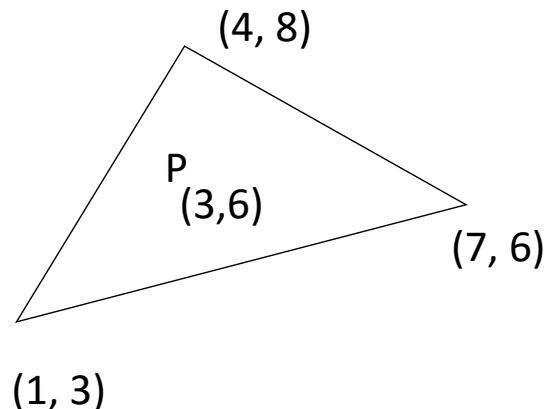

Fig. 6b
- b) For the CST element shown in Fig. 6b, determine the shape function values at point P. Also obtain the strain-displacement matrix. 8